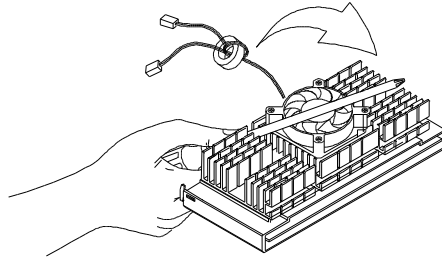

Figure 2-8 Locking a Wide Clip End
3. Use a screwdriver to press and lock in the wide end of a clip first. Then without lifting the screwdriver, point it downward to press and lock the narrow end of the clip. See Figures 2-8 and 2-9 for the illustration of this step.